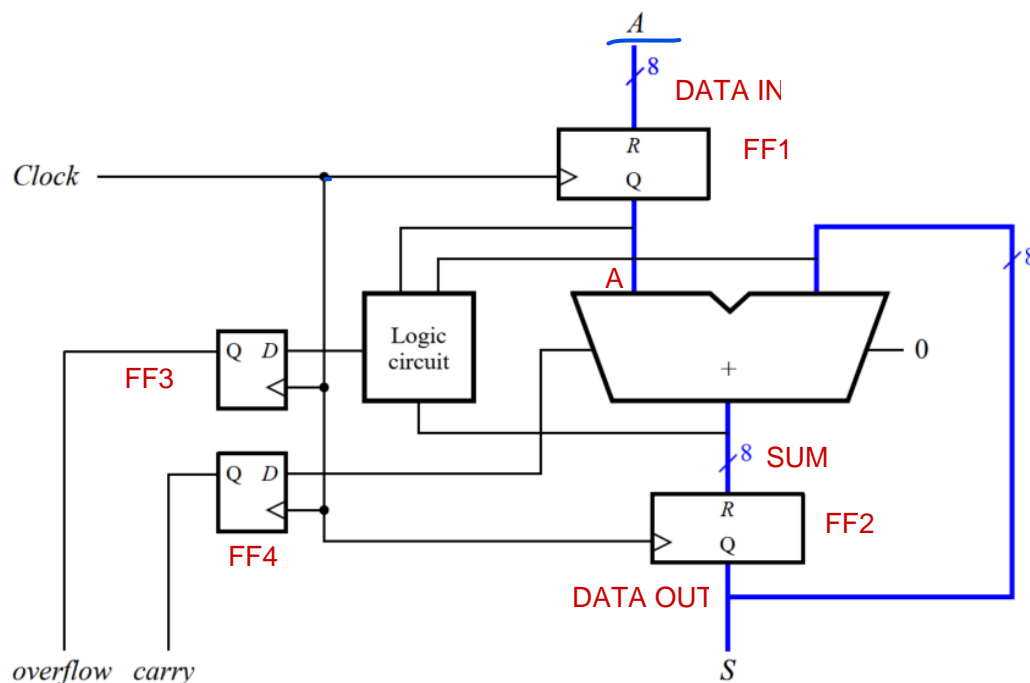

Figure 1: An eight-bit accumulator circuit.
Requirement: The circuit in Figure 1, which is often called an *accumulator*, is used to add the value of an input A to itself repeatedly. The circuit includes a carry out from the adder, as well as an *overflow* output signal. If the input A is considered as a 2's-complement number, then *overflow* should be set to 1 in the case where the output *sum* produced does not represent a correct 2's-complement result.
- Write System Verilog code to describe the circuit given in Figure 1.